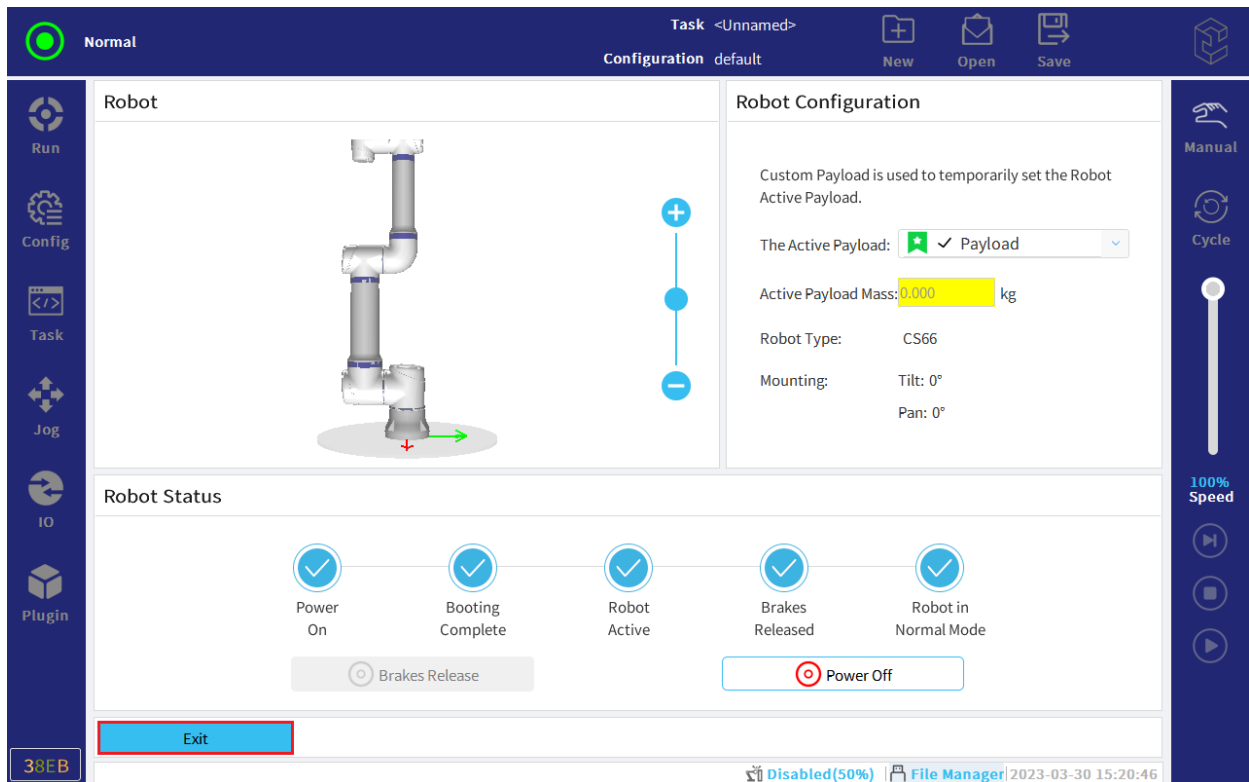

Figure 8-2 Exit the page
4. Click "Exit" at the bottom left to exit the current page, as shown in Figure 8-2.